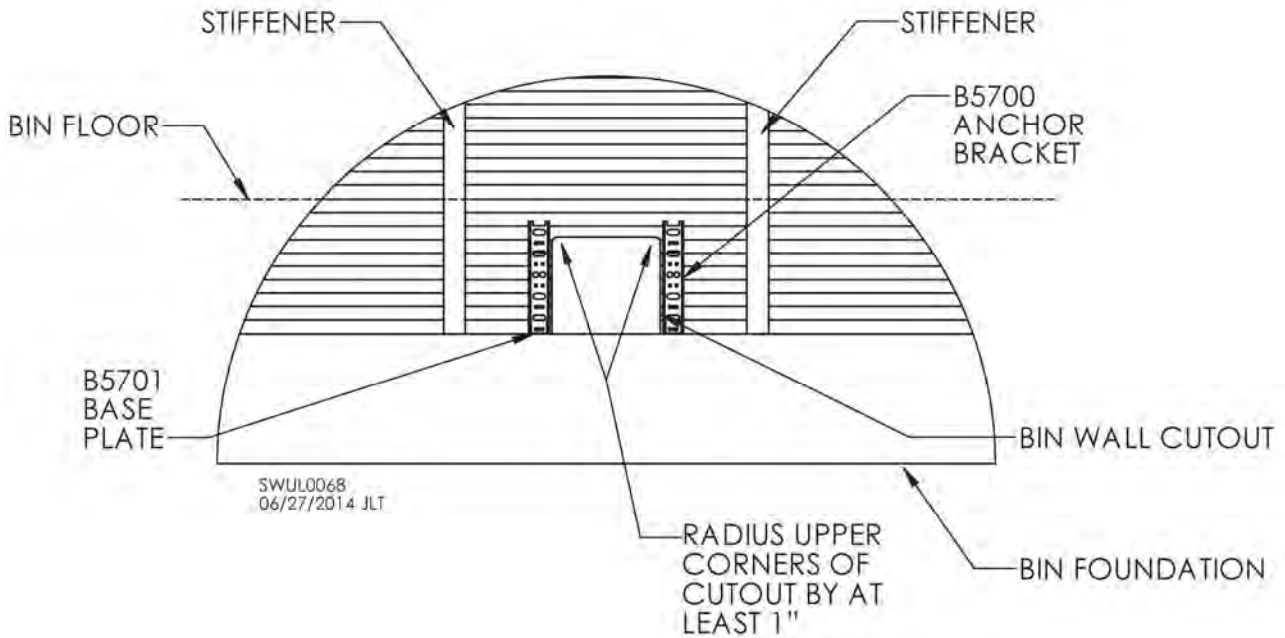

Fig. 13 – 20" cutout reinforced by 22" anchor brackets (B5700) and base plates (B5701)
Bin sidewall should be reinforced around any cutout wider than 13" (e.g., conveyors). Use 22" anchor brackets or similar supports for cutouts up to 30" wide. See Fig. 13. Attach a base plate (B5701) to each 22" anchor bracket using two (2) 3/8 x 1" bolts and two (2) 3/8" flange nuts. Attach 22" anchor brackets to sidewall using 3/8" bolts.